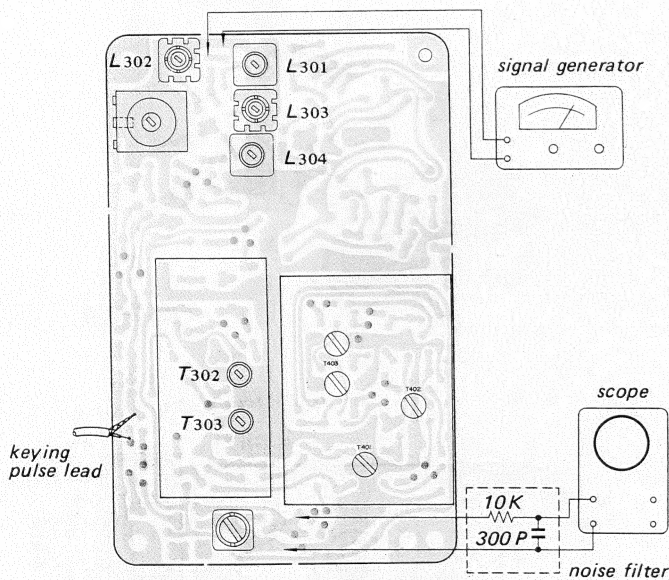

Fig. 3-1
3. Connect a scope to the VIF output terminals through a noise filter consisting of a 10-k ohm resistor and a 300-pF capacitor as shown in Fig. 3-1.
2. Connect a signal generator (33.75 MHz with 1 kHz 40% AM modulation) to the point where the VIF INPUT cable was connected as shown in Fig. 3-1.
8. Connect a scope to the VIF output terminals through a noise filter as shown in Fig. 3-1.